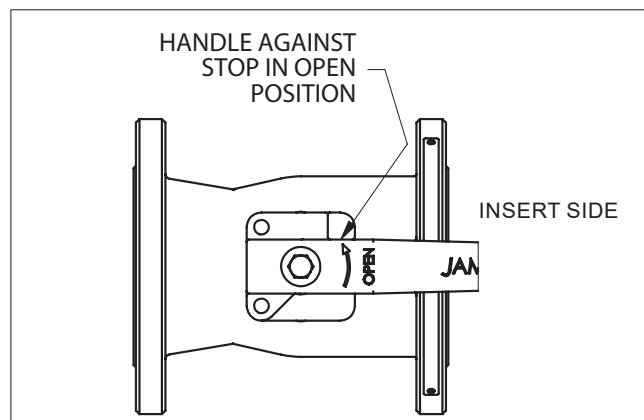

Figure 13. Handle Stop
3. Insert the four bracket screws (3) and lock washers (4) into the mounting holes and thread into the valve until finger tight only.
4. Aligning the slot in the handle with drive on the stem, lower handle (1) straight down in line with the valve stem until it is completely engaged. If the handle (1) interferes with the handle bracket (2) rotate the handle bracket slightly to remove interference. DO NOT rotate stem!
5. Install the handle screw (6) and washer (5). Tighten handle screw (6) to value listed in **Table 5**.
7. Rotate handle bracket (2) until the handle stop contacts the side of the handle (1) (see **Figure 13**).